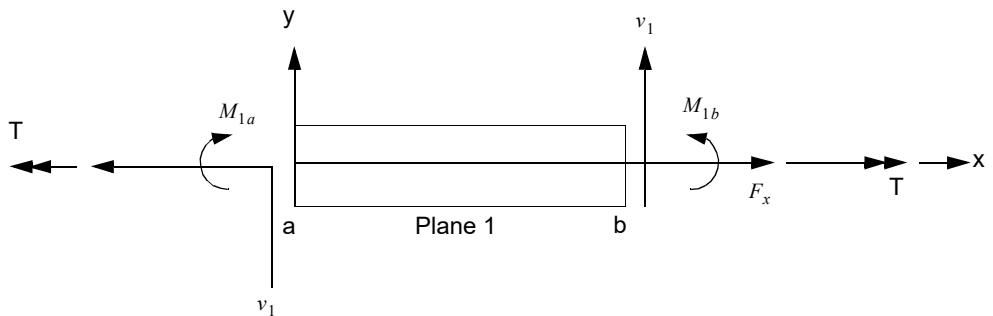
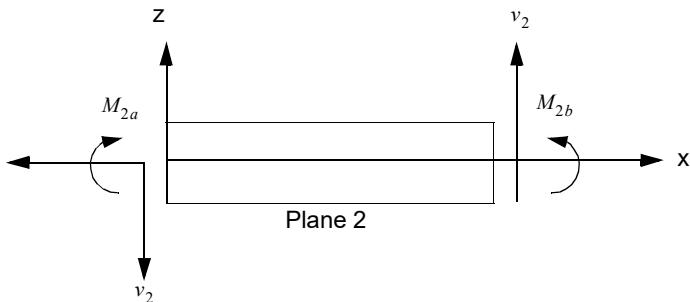

Figure 9-13 CBAR Element Internal Forces and Moments (x-y Plane)
Figure 9-14 CBAR Element Internal Forces and Moments (x-z Plane)
3. Figure 9-13 and Figure 9-14 define the elemental force and moment sign convention.